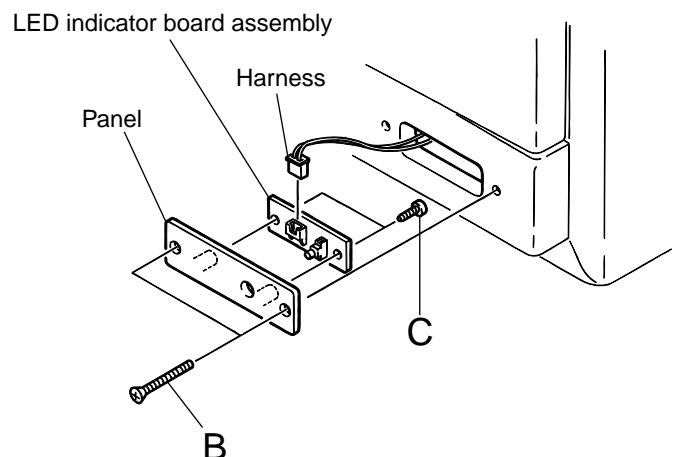

Fig.3
■Removing the LED indicator board assembly (See Fig.3)